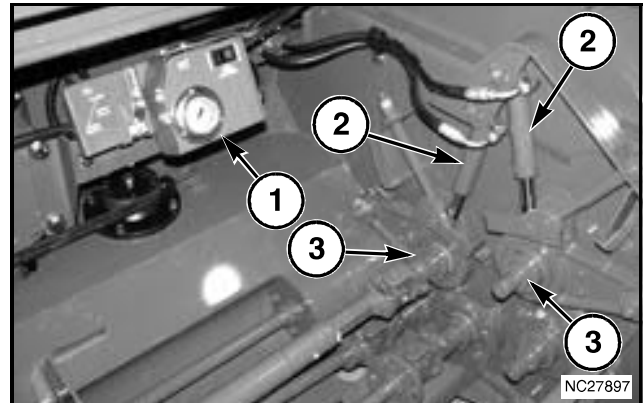

FIG. 12
FIG. 12: Hay conditioner roll pressure can be changed by adjusting the gauge pressure on the control panel (1) under the left-hand drive shield. Hydraulic pressure is applied to the cylinders (2) on the ends of the top hay conditioner roll (3). The accumulator gives a flotation function to the hay conditioner rolls.